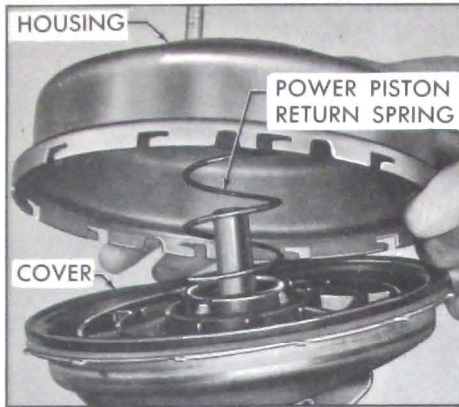

Figure 9-21—Removing Power Piston Return Spring
8. Remove power piston return spring. See Figure 9-21.